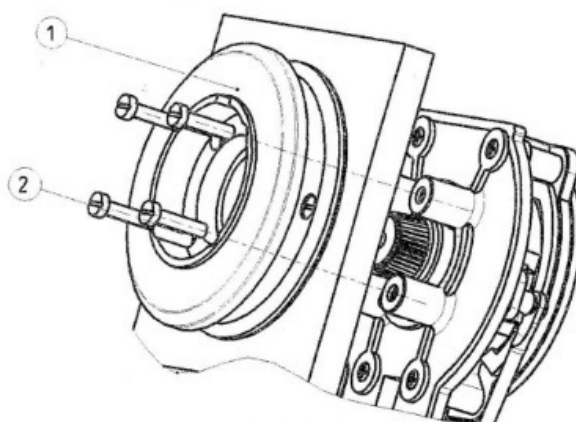

**FIG. 5**
**USE OF CABLE F05 (see FIG.5):**